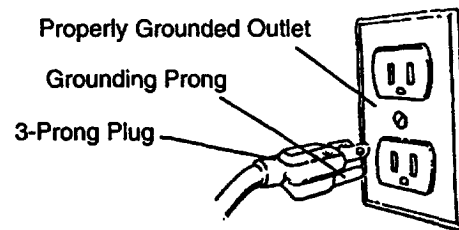

Figure 14 - 3-Prong Receptacle
- This tool is equipped with an approved cord rated at 150V and a 3-prong grounding type plug (see Figure 14) for your protection against shock hazards.
- Grounding plug should be plugged directly into a properly installed and grounded 3-prong grounding-type receptacle, as shown (see Figure 14).